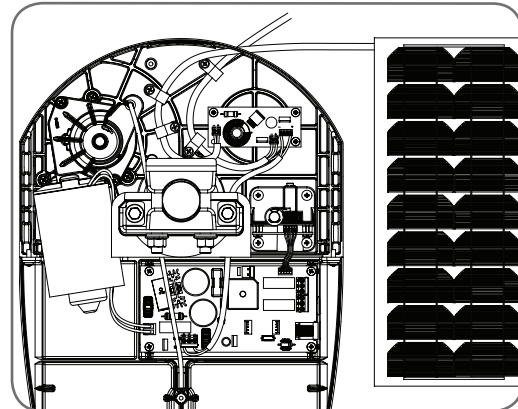

Fig 19.2
- Feed the two wire cable through the opening, then connect the red wire into solar + and black wire into solar - connector on the control board. (**Fig 19.2**)